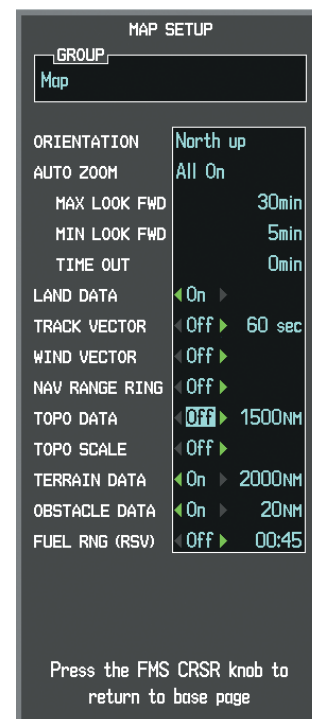

Figure 6-111 Navigation Map Page Setup Menu, Map Group
- 5) Turn the large **FMS** Knob or press the **ENT** Key to scroll through product selections (Figure 6-111).